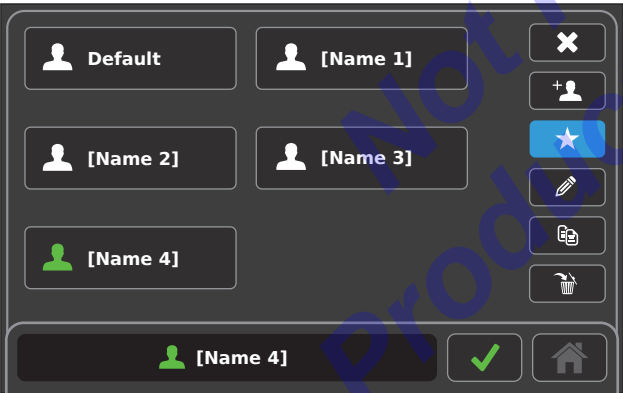

Figure 59 – Favorite Preset Selection
2. Touch the desired preset to make a selection (Figure 59).